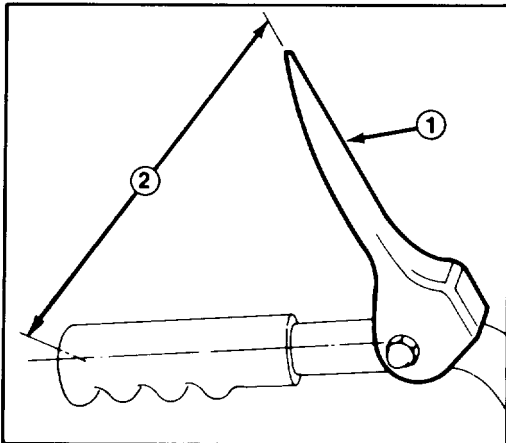

Figure 6
3. Check the distance between the center of the handle and tip of the auger control lever (Fig. 6). Distance should be approximately 5 inches (12.7 cm).